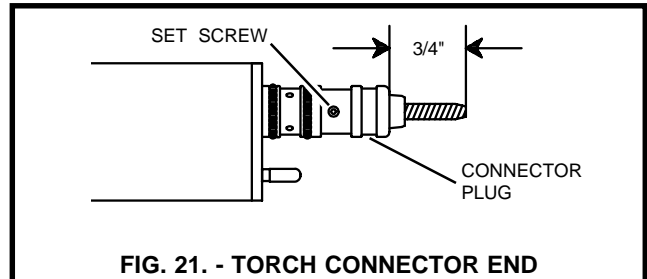

FIG. 21. - TORCH CONNECTOR END
4. Loosen set screw located on the connector end of the torch assembly (see FIG. 21).
5. Tighten set screw. (Do not over-tighten), refer to FIG. 21.